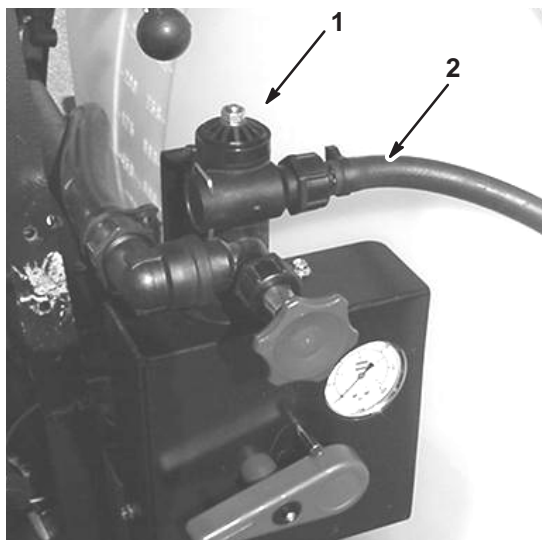

Figure 15
1. Thread and tighten the nut on the end of the hose and spray gun assembly to the threaded male fitting on the control valve assembly (Fig. 15).